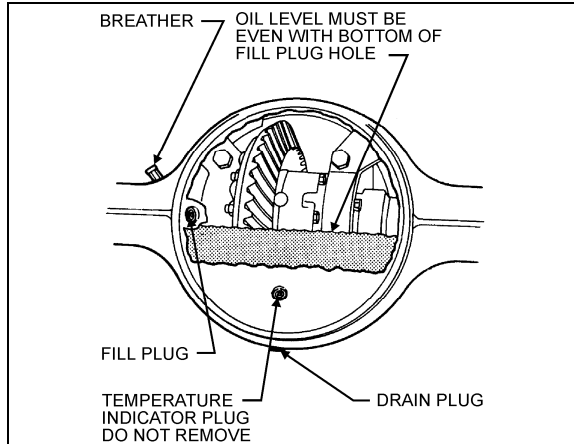

FIGURE 4: DIFFERENTIAL HOUSING BOWL
- FIGURE 4: DIFFERENTIAL HOUSING BOWL 3
Check oil level and add (if necessary) every 25,000 miles (40 000 km) or according to the fleet maintenance interval, whichever comes first (Fig. 4).
3. Clean the area around the fill plug. Remove the fill plug from the differential axle housing bowl (Fig. 4).